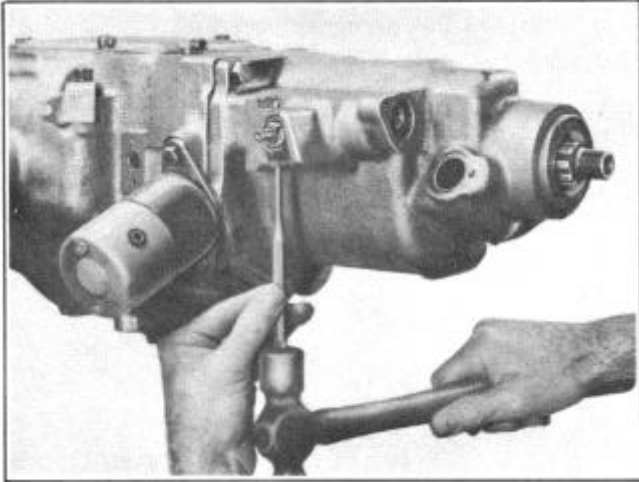

FIGURE 11
9. Drive out the overdrive control shaft tapered pin, Figure 11, and pull control shaft out as far as possible to disengage the operating cam of the shift shaft from the slot in shift rail.